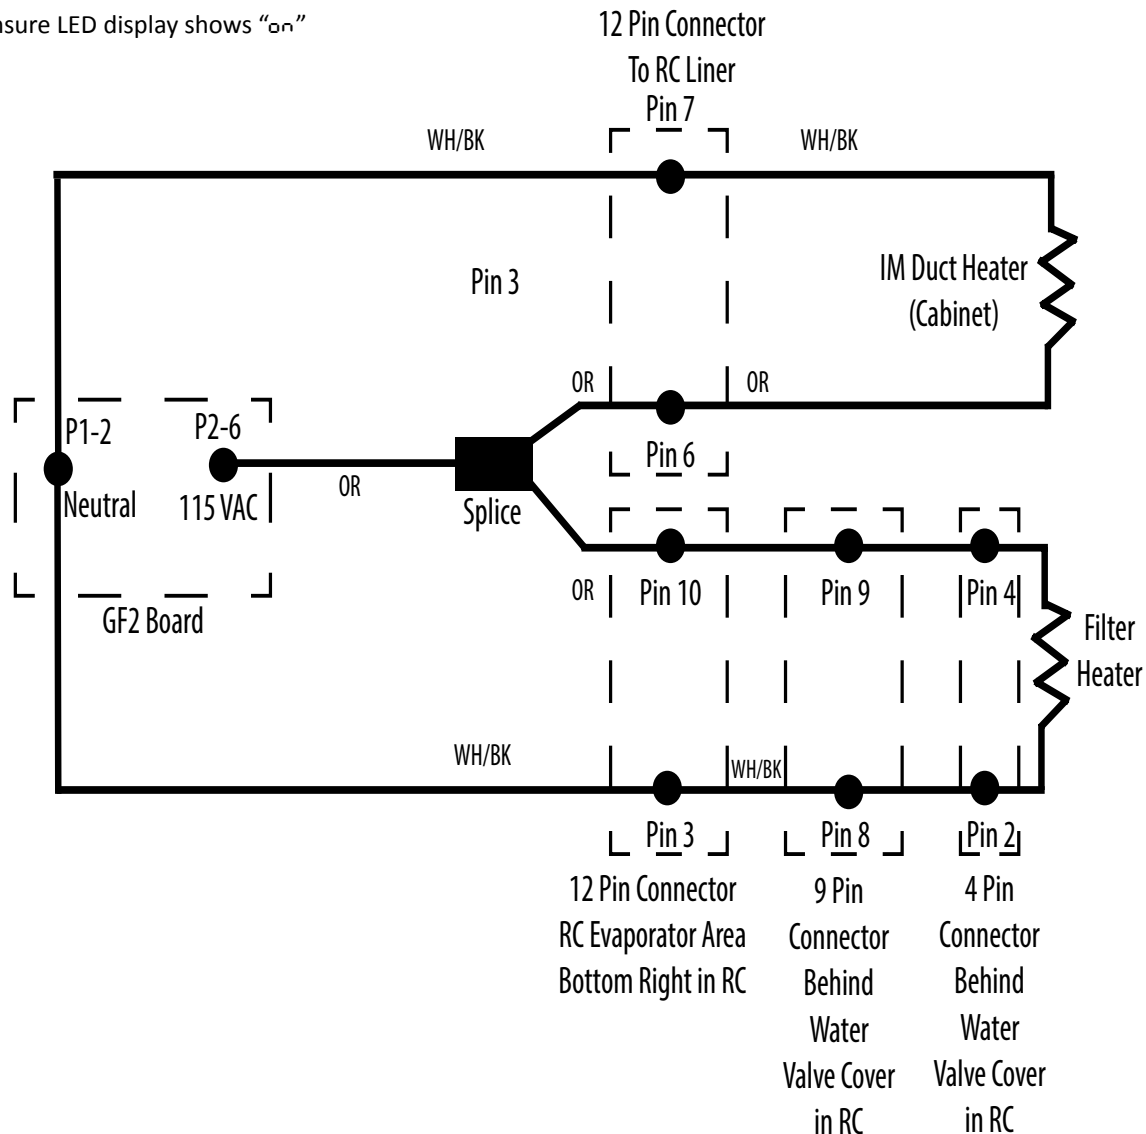

Figure 7: Filter Heater & IB Heater Electrical Diagram
- Take resistance reading between GF2 P1-2 & GF2 P2-6 (Figure 7).